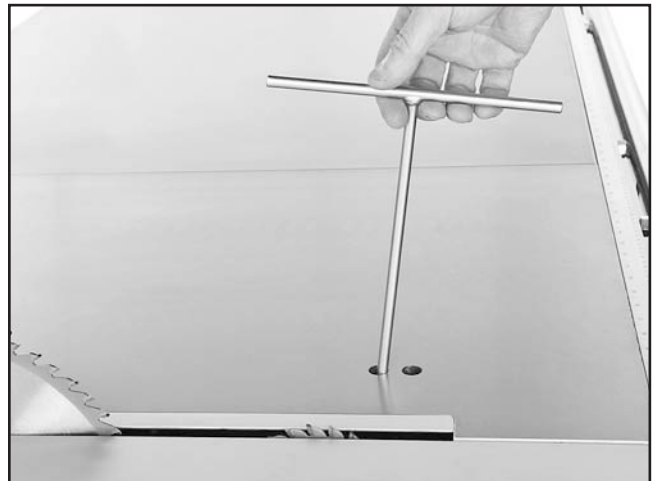

Figure 37. Lowering the scoring blade.
40. Insert the T-handle wrench into the left-hand hole of the two shown in **Figure 37**, engage it with the scoring blade elevation bolt under the table top, and rotate it counterclockwise to lower the scoring blade below the table surface.